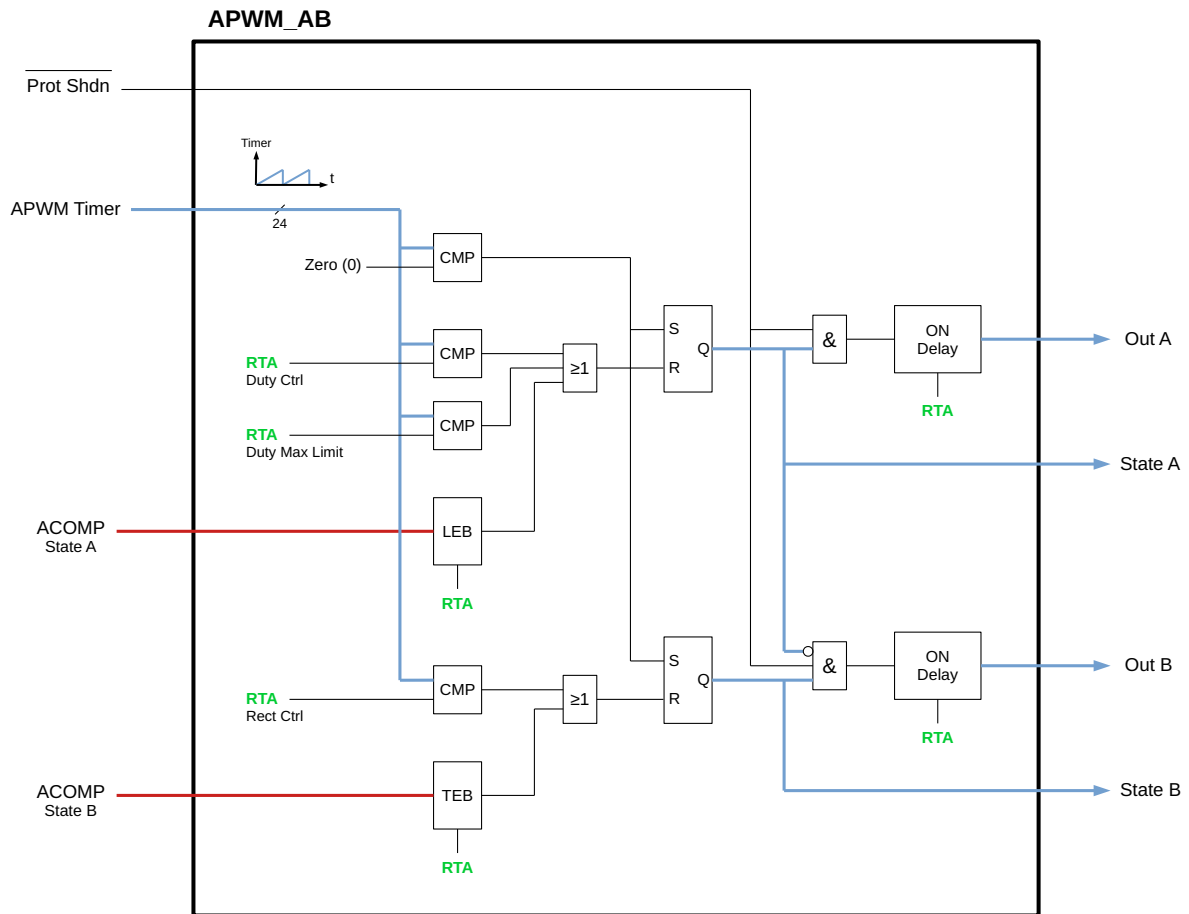

Figure 122. Functional diagram of APWM_AB
The APWM_AB hardware block is designed to generate two gate-control signals, Out A and Out B in figure 122, suitable to control the two power switches in a half-bridge switch constellation. The duty cycle can be controlled from peak-current analog comparator, ACOMP State A, or from RTA. Also the frequency from APWM Timer can be reprogrammed PWM cycle-by-cycle from RTA. Hence, all DC/DC topologies, which run in current or voltage control mode with variable duty cycle or frequency, are supported.
The description below refers to figure 122.
12	TEB to ACOMP (TEBAC) - value of the TEB to ACOMP signal output of the TEB block in figure 122
11	ACOMP GPIO Fast (GPFA) - value of the input ACOMP GPIO Fast in figure 122
10	ACOMP GPIO Set Hard (GPSH) - value of the input ACOMP GPIO Set Hard in figure 122
9	ACOMP DAC Fast (DACFA) - value of the input ACOMP DAC Fast in figure 122
8	ACOMP DAC Set Hard (DACSH) - value of the input ACOMP DAC Set Hard in figure 122
6	Reset (R) - value of the signal input R to the State A SR flip flop in figure 122
5	Set (S) - value of the signal input S to the State A SR flip flop in figure 122
4	LEB to ACOMP (LEBAC) - value of the LEB to ACOMP signal output of the LEB block in figure 122
2	Protection Shutdown (PS) - value of signal "Prot Shdn" in figure 122